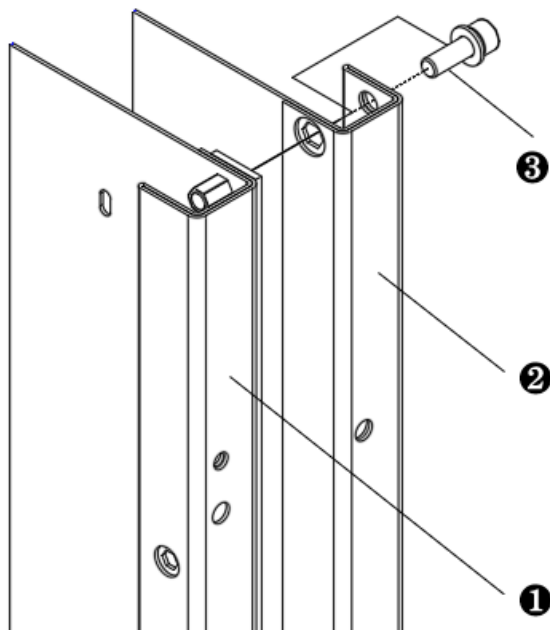
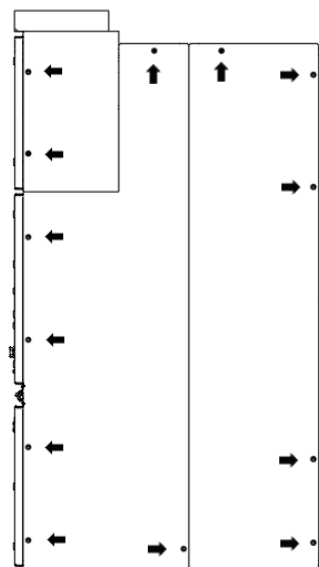

Fig. 3-3 Coupling bolts assembly
Fig. 3-5 Location of the bolts connecting adjacent panel
4. Remove the hoisting frame, bolts and washers if applicable. Check locations of junction holes, see Fig.3-5. Remove the bolts and washers if installed.
7. Use the bolts and washers and apply a torque of 40Nm to fix the panels together, see Fig.3-3. Bolts location, see Fig.3-5